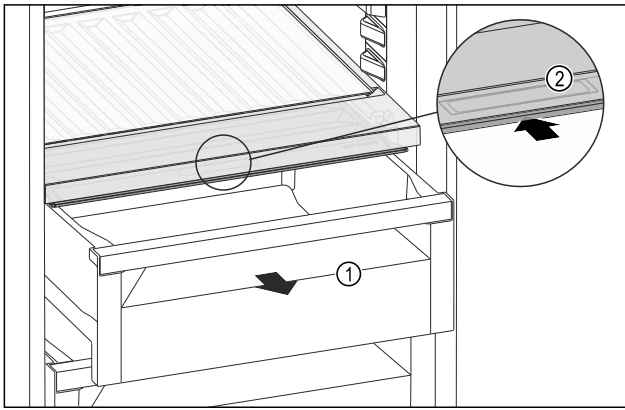

Fig. 119
- Pull out the drawer Fig. 119 (1).
- Grasp the recessed grip Fig. 119 (2) on the compartment lid and push the compartment lid backwards at the same time.